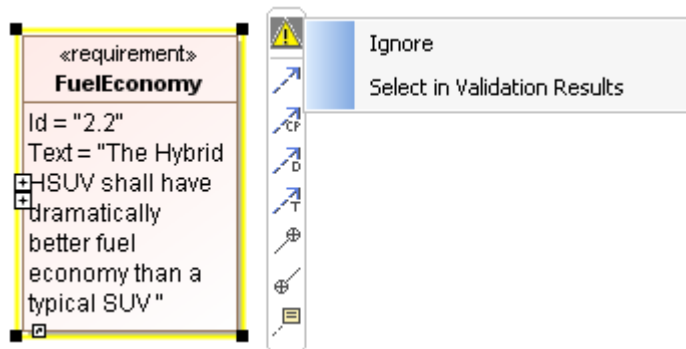

Figure 208 -- Invalid Element Validation Options
9. Click the warning icon to display a menu. Then, select either **Ignore** or **Select in the Validation Results** (Figure 208).